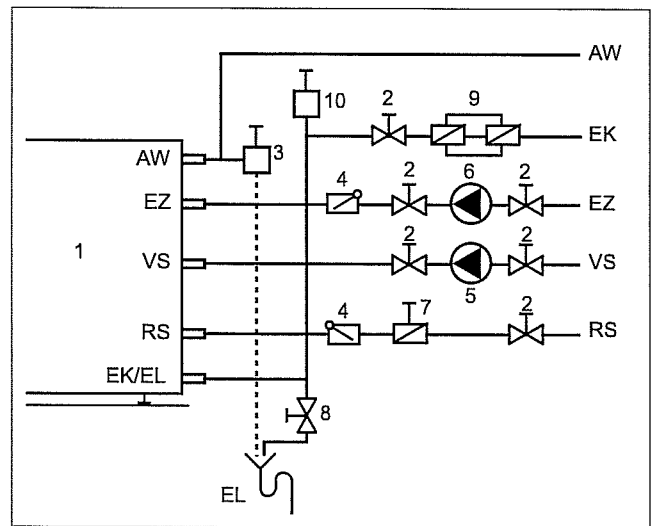

Fig. 10 Installation Diagram
- Drain tank. Shut off the cold feed (EK) and open tank drain (Fig. 10, page 11). Open the highest faucet for venting.